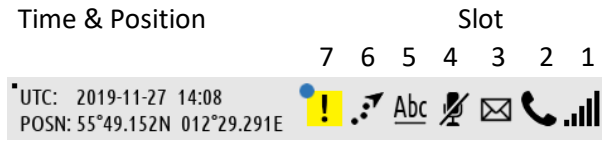

Figure 36: LT-4210 Control Unit - UI (status bar)
**NOTE:** The status bar contains a flashing square in the upper left corner to verify that the display never freezes, see Figure 36 above. The flashing square is always visible on the display.